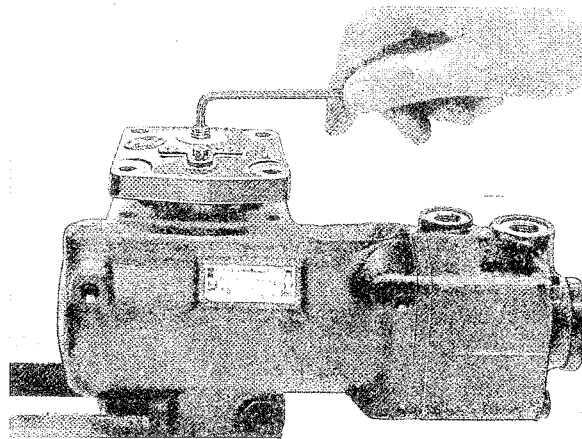

Fig. 6-66. Removing housing cover
1. Clamp the steering gear in a vise as shown in Fig. 6-66.
2. Remove the lock nut (17) and the retaining bolts (19) from the cover. Screw in the adjustment screw (11) through the cover and remove the cover (16). Take out the loose needles in the cover bearing (14).